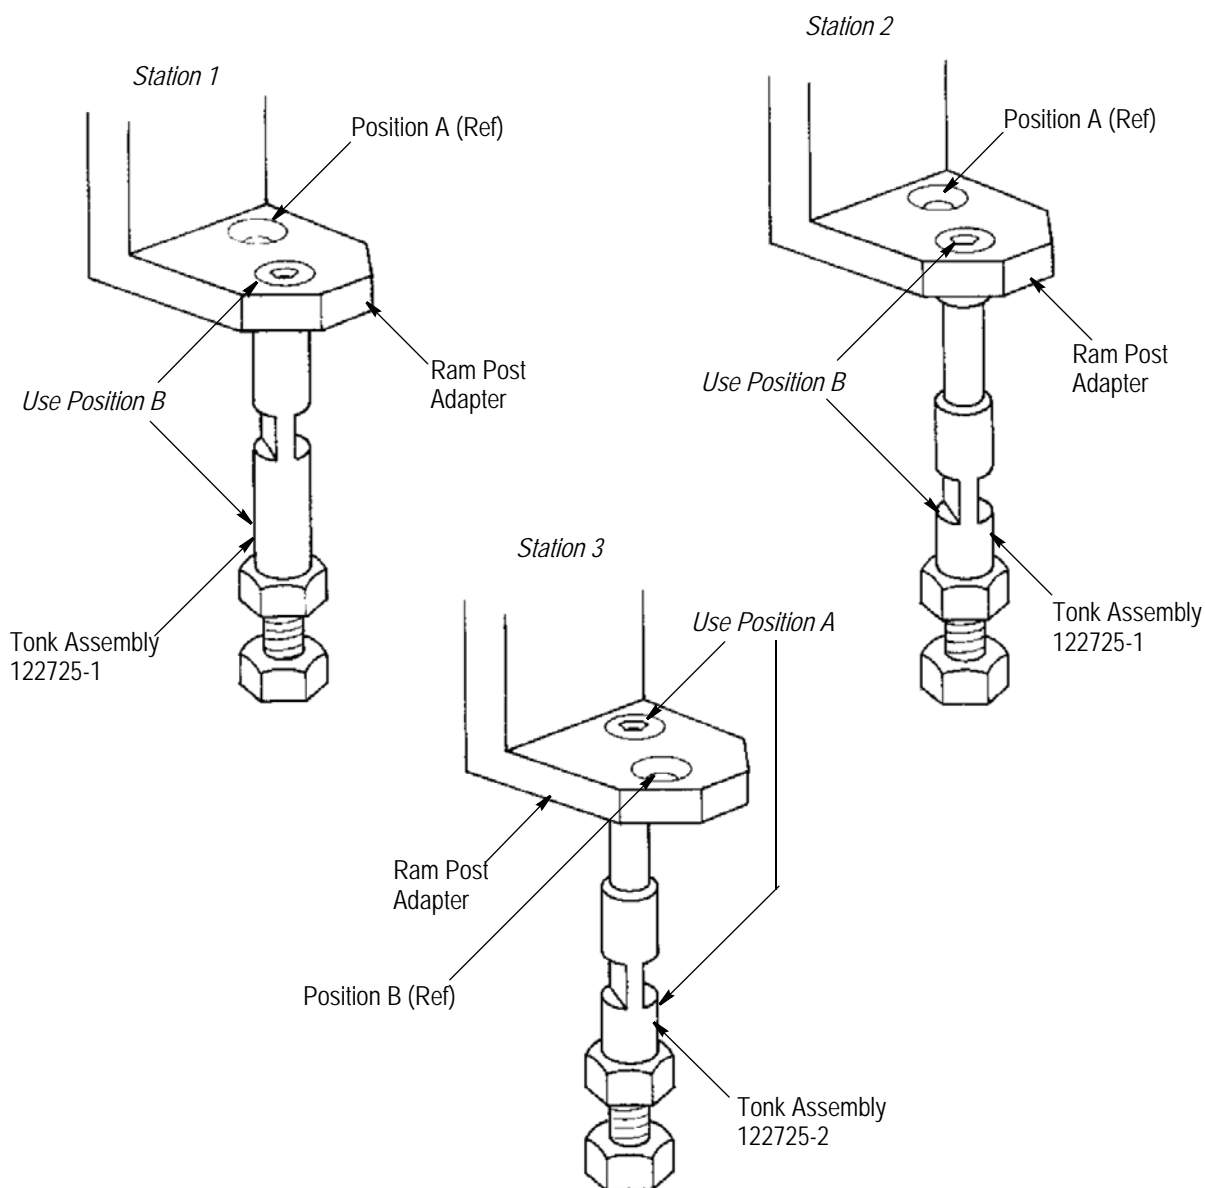

Figure 8
4. Install the tonk assembly (supplied with the installation kit) onto the ram post adaptor of the Model "G" terminating machine. Refer to Figure 8 for proper installation of the tonk assembly.